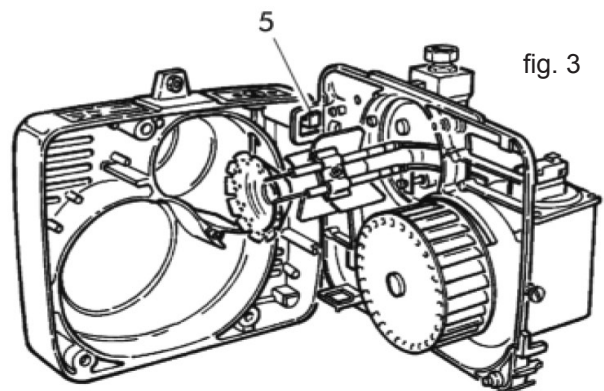

fig. 3
- Hang the component holder plate into the service position 5 and effect combustion head maintenance (fig.3).